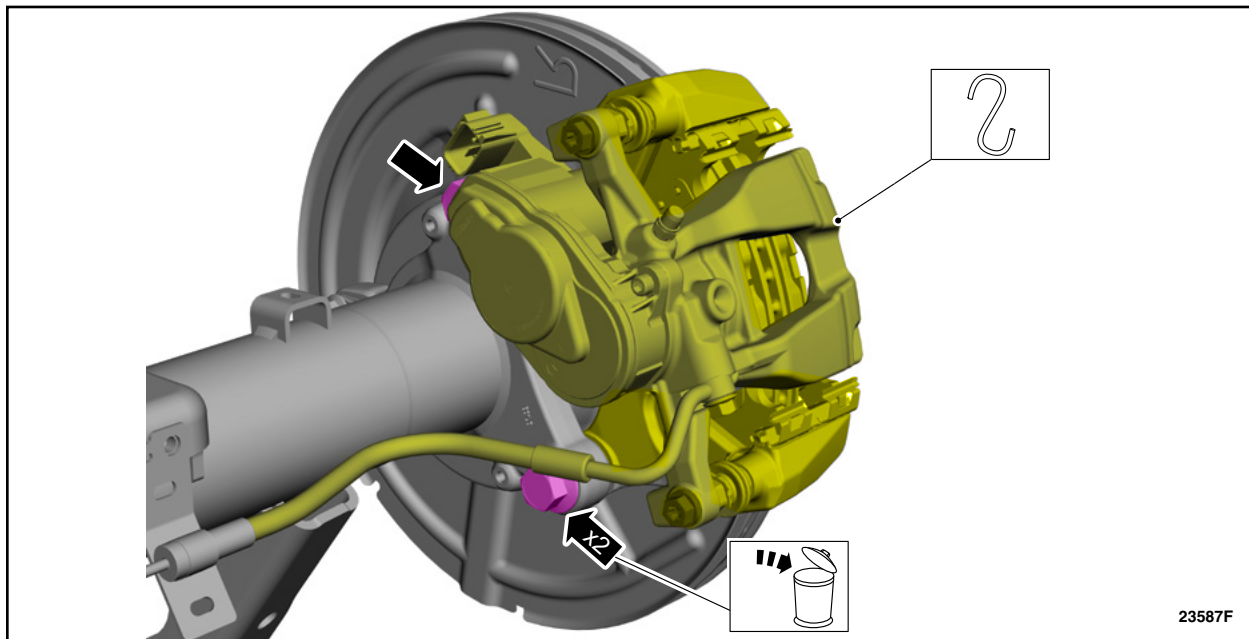

FIGURE 2
6. On both sides, remove and discard the two (2) anchor plate bolts and position aside the brake caliper and anchor plate assembly. See Figure 2.
10. On both sides, position back the brake caliper and anchor plate assembly and install the new bolts. See Figure 2.